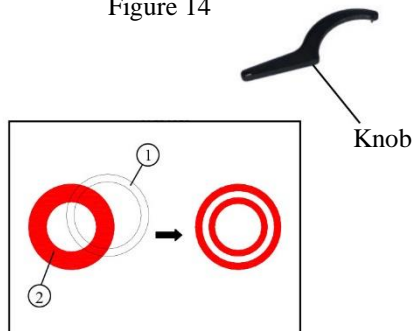

Figure 15
3.2.3. The centering ring (Figure 15, 16)